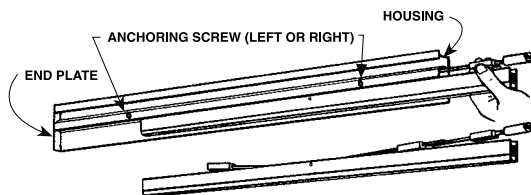

Figure 1 - Reversing the Mechanism
**REVERSE HANDING** (See figure 1)